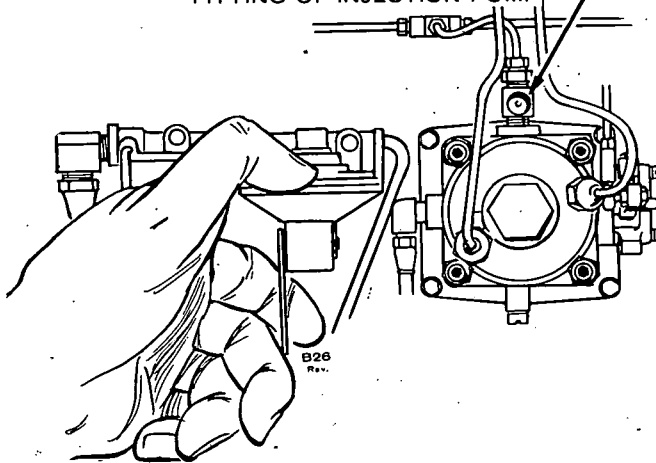

FIGURE 14. BLEEDING FUEL SYSTEM
When replacing or cleaning the filters, bleed the fuel system. Operate the hand priming lever on the transfer pump until no air bubbles flow from the return line fitting of the injection pump. Return the priming lever to its original position. See Figure 14.
2. Insert the link and rocker arm into the body and hook it over the diaphragm pull rod. Align the rocker arm with the rocker arm pin hole and drive in the pin. The priming lever must be in the position shown in Figure 14 when installing the rocker arm.